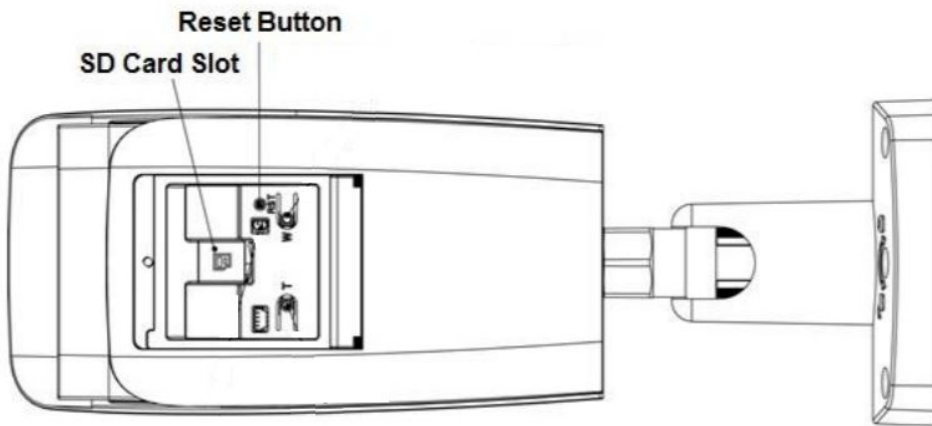

Figure 2-5
**Step 2** Slightly press the RESET button for 15-30 seconds to complete the reset function. See Figure 2-5. The camera will reboot when the reset process is complete.
**Step 3 (If installing SD Card)** Adjust the Micro SD Card to a proper direction shown in Figure 2-5.